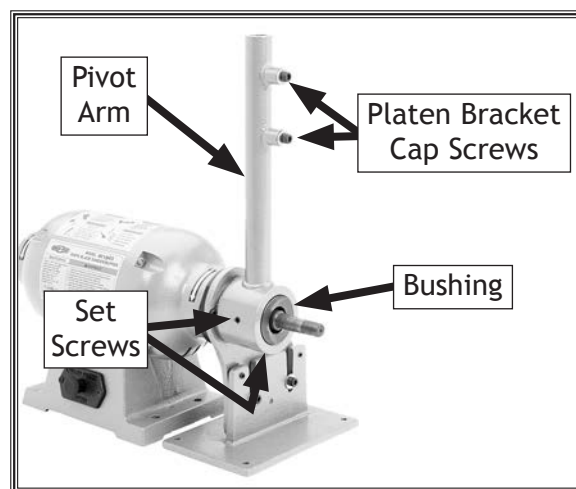

Figure 11. Pivot arm installed.
10. Back out the two set screws in the round end of the pivot arm, slide the arm onto the bracket bushing so that the platen bracket cap screws are facing to the right, as shown in **Figure 11**, then tighten the set screws to hold the pivot arm in place.